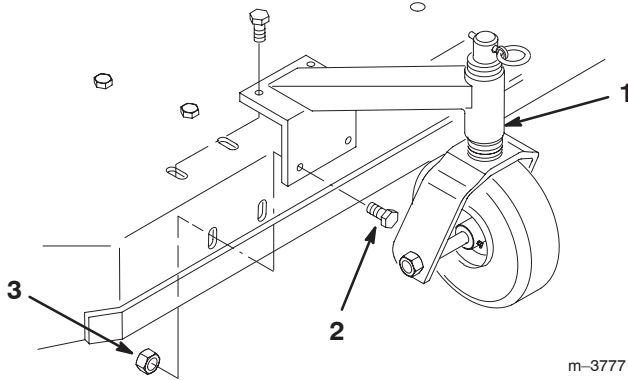

Figure 2
1. Align the casters with the holes on the top and front of the mower, and insert 8 bolts (3/8 x 3/4 inch) through the mower. Secure the caster with 8 flange nuts (3/8 inch) below the mower (Fig. 2).